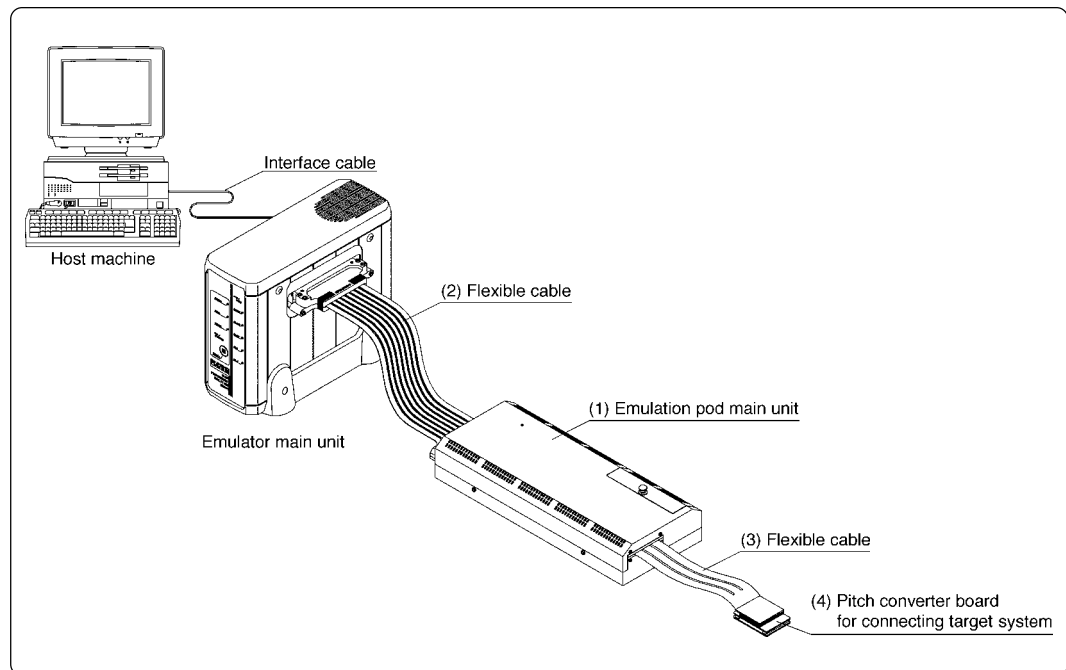

Figure 2.1 System configuration
(1) to (4) in Figure 2.1 are included with this product package.